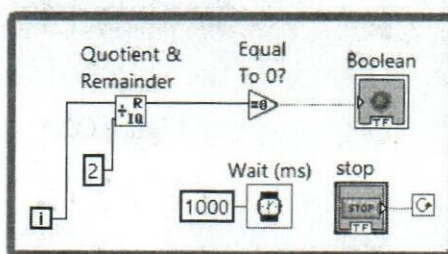

Figure Q1
- ii. Differentiate traditional instruments and virtual instruments by considering at least three (3) features of them. (6 marks)
- iv. LabVIEW is a graphical programming environment widely used by engineers and scientists. Identify three (03) application areas where LabVIEW is commonly used. (3 marks)
- v. List three (03) data types available in LabVIEW and provide an example for each type. (3 marks)
- vii. Briefly explain the behaviour of the LED on the front panel corresponding to the execution of the graphical code in Figure Q1? (3 marks)